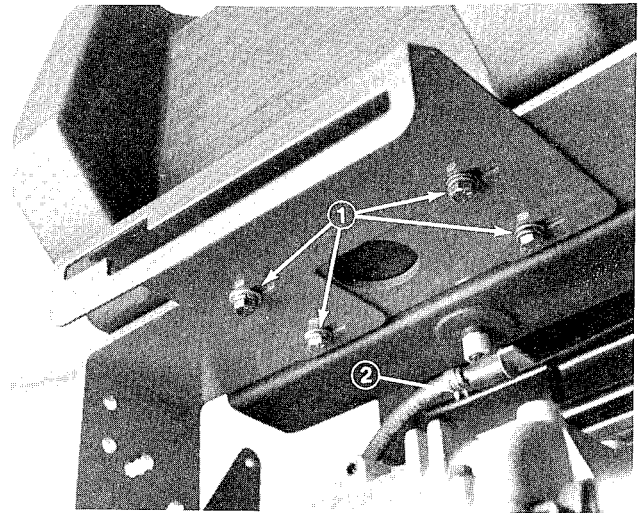

**Figure 1**
1. Position fuel tank onto rear frame aligning mounting holes as shown in Fig. 1.
and washers (Fig. 1 & 2). Do not tighten capscrews at this time.